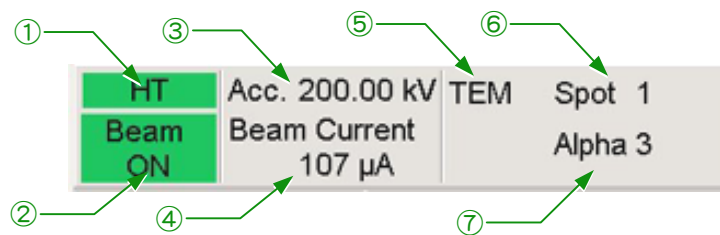

Fig. 4.15 Left main screen
② Beam ON (or Beam Ready or Beam Not Ready)
- When electron beams are generated, the background turns green and “Beam On” appears in black (see Figs. 4.15 and 4.16a).